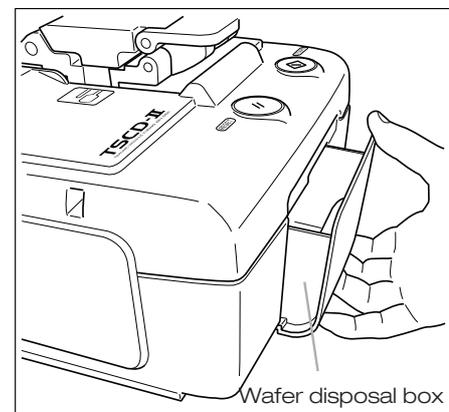

Figure 19
- Remove the wafer disposal box from the TSCD[®]-II by drawing it backwards (See Figure 19).